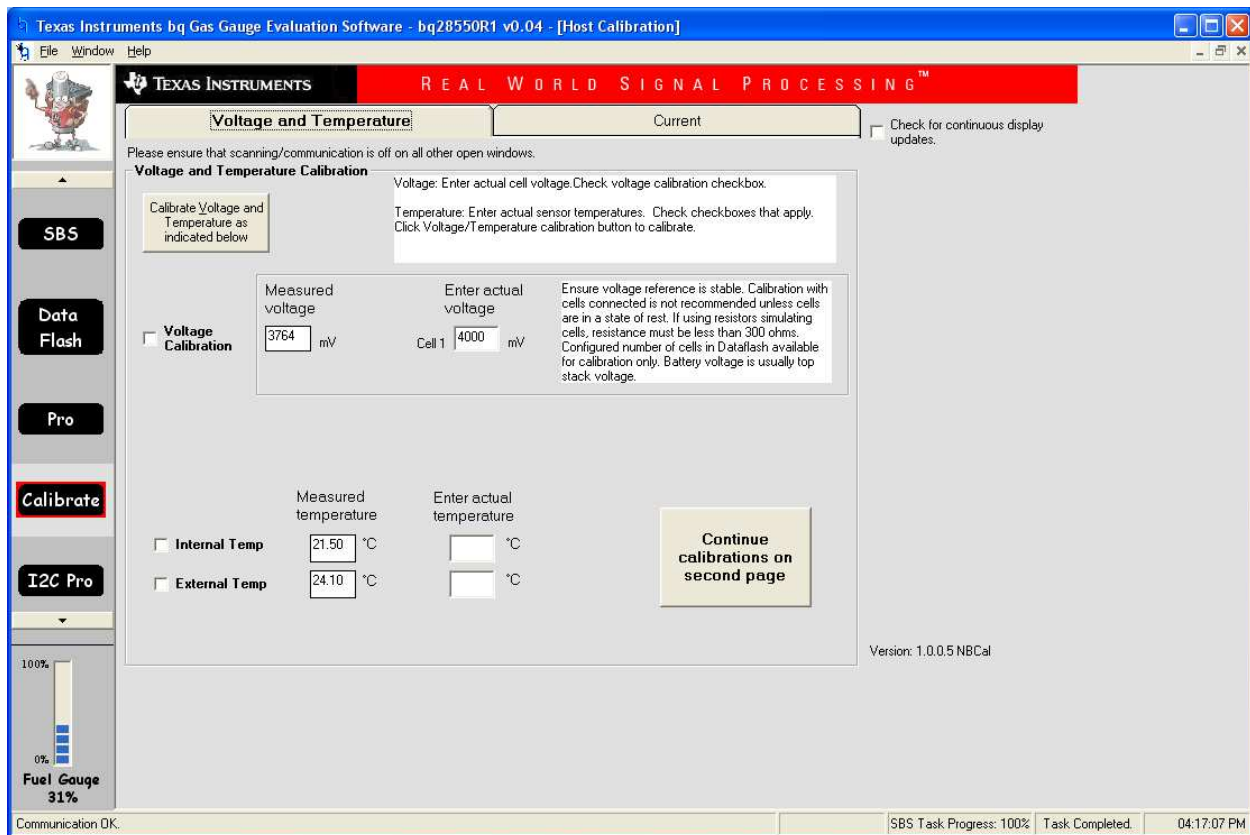
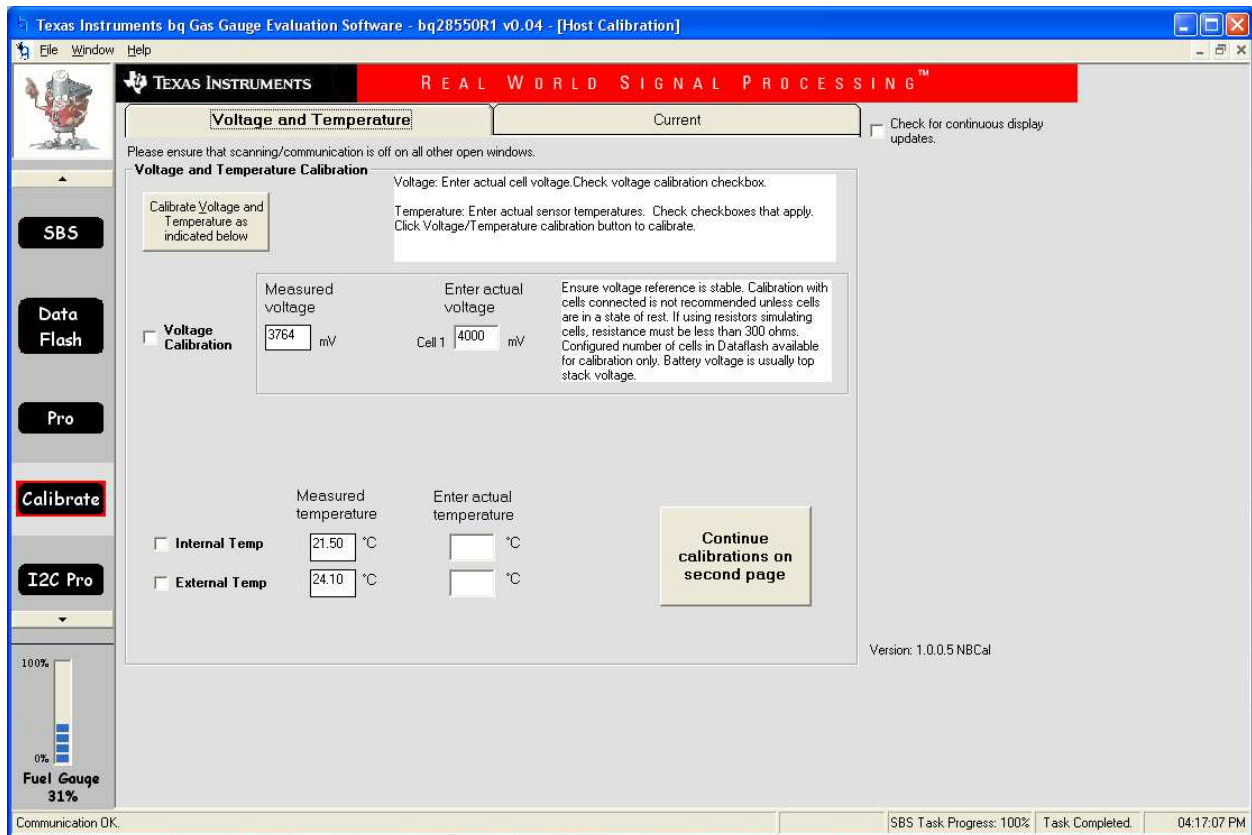

Figure 9. Voltage and Temperature Calibration Screen
Figure 10. Current Calibration Screen
1. Select the types of calibration to be performed (see Figure 9 and Figure 10).